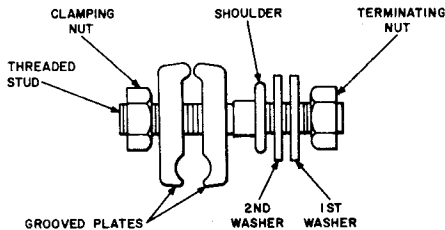

Fig. 3—D Cable Lashing Clamp
3.03 The D Cable Lashing Clamp is shown in Fig. 3.